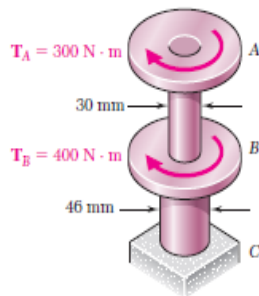

Fig 3
- b. The torques shown in Fig 3 are exerted on pulleys A and B. Knowing that each shaft is solid, determine the maximum shearing stress (i) in shaft AB, (ii) in shaft BC. [10]